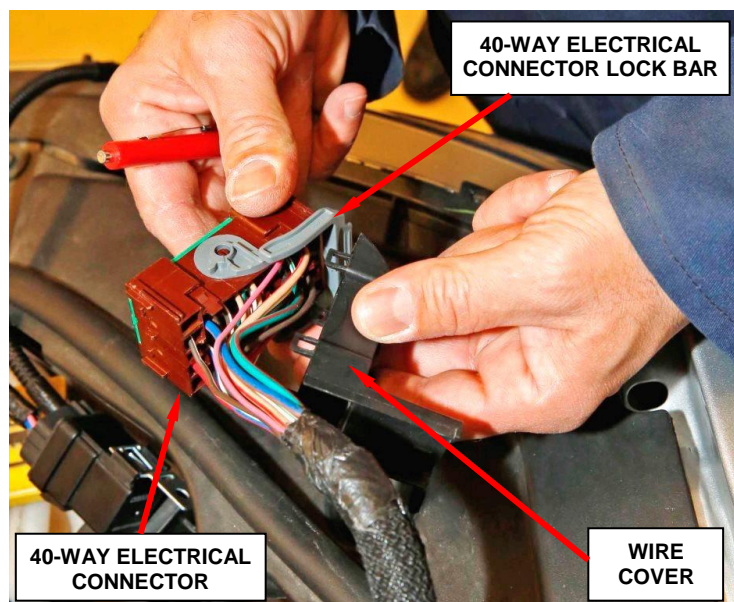

Figure 19 – 40-Way Electrical Connector Wire Cover
14. Carefully remove and save the 40-way electrical connector wire cover located on the wire side of the connector (Figure 19).